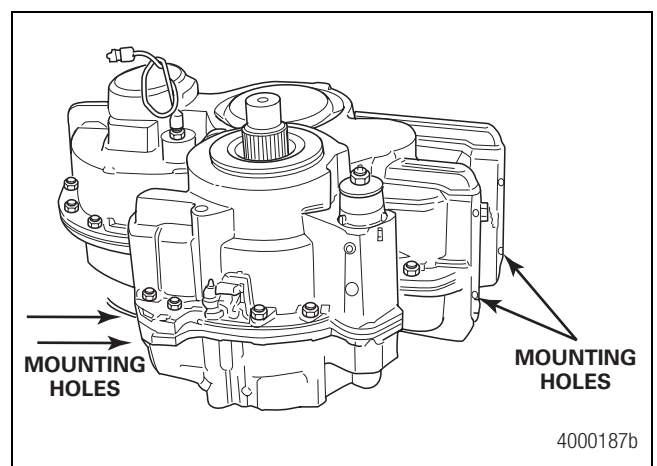

Figure 4.17
4. Attach a suitable lifting device to the eye-bolts. Lift the rear cover from the front case. Figure 4.17.